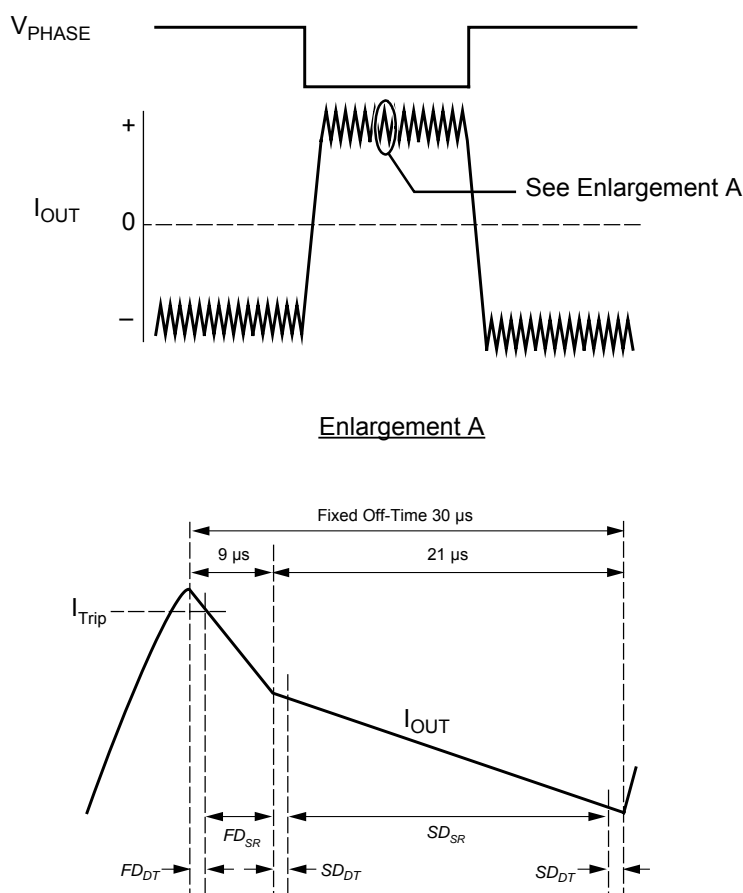

Figure 2. Mixed Decay Mode Operation
**Mixed Decay Operation** The stepper driver operates in mixed decay mode. Referring to figure 2, as the trip point is reached, the device goes into fast decay mode for 30.1% of the fixed off-time period. After this fast decay portion,  $t_{FD}$ , the device switches to slow decay mode for the remainder of the off-time. The dc driver decay mode is determined by the MODE pin. During transitions from fast decay to slow decay, the drivers are forced off for approximately 600 ns. This feature is added to prevent shoot-through in the bridge. As shown in figure 2, during this “dead time” portion, synchronous rectification is not active, and the device operates in fast decay and slow decay only.